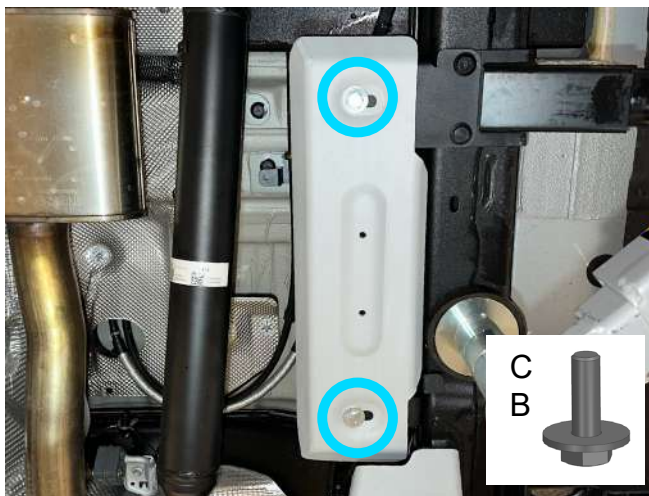

Fig. 12
12. Install fuel filter (diesel)/fuel pipes (gasoline) skid plate (item 2) on pre-installed brackets. Secure the skid plate using bolts M10x30 and washers 10 (item B, C) (Fig. 12).